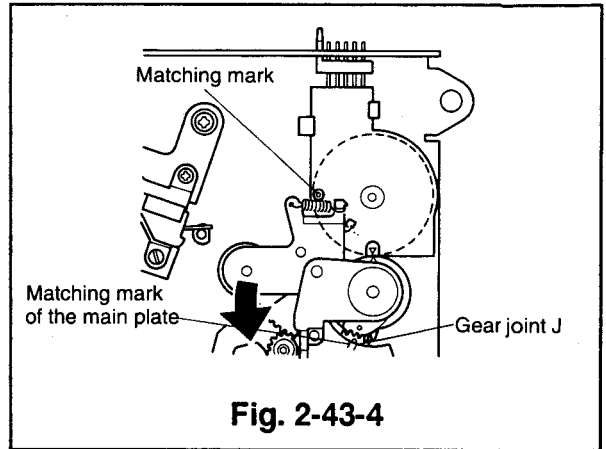

Fig. 2-43-4
- ③ Slide the supply and takeup tape guide assemblies to the unloaded position, by either of the following methods so that the upper hole of the mode switch aligns with that of the cogwheel as shown in Fig. 2-43-4.
- Supply voltage (approximately 5V), reversing the polarity used in ④ of the removal method, to the loading motor as ⑤ of the installation method in Para. 2-19.